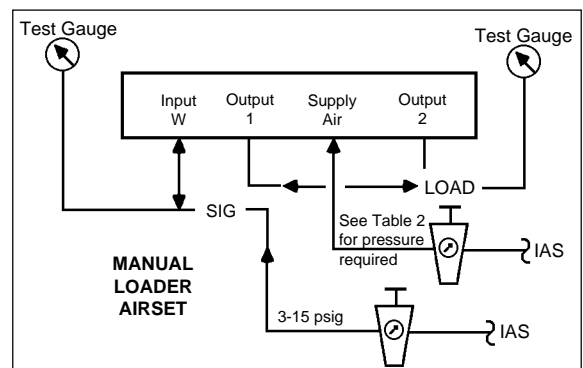

Figure 20
- e. Press the flapper lever (38) several times alternately to the left and right, so that the ball-and-socket mounted flappers (52) are aligned parallel to the nozzles (51).
- f. Press the flapper lever (38) to the left. Set the clearance between the nozzle (51) and the flapper (52) to 0.6 mm (0.024 in.) with the aid of a feeler gauge by turning the hexagonal adjuster (56) with 6 mm wrench. Secure the nut against further turning using sealing paint.
- g. Connect the positioner as shown in the test circuit in Figure 20. Provide an "IAS" of 60-100 psig.
- h. Press the flapper lever (38) to the left. If the output does not rise to the level of the supply air pressure, either leaks are present or the flapper (52) is not correctly aligned (repeat e. above).
- i. Hook the range spring (41) onto the flapper lever (38), and provide a mid-range (9 psig for 3-15 psig signal range, 6 for 3-9, 12 for 9-15, etc.) input "SIG" to port "Input W" (3-15 psig) using a manual loader.